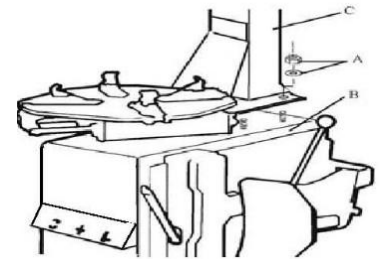

Fig 3
2. Unscrew the nut A on the cabinet body B as shown in Fig 3. Lift the column C; mount it on the machine body B by using the nut A through the bolt located on the machine body B. If the column becomes loose after a period of using, tight them immediately. Otherwise the result of damage to the tyre may happen.